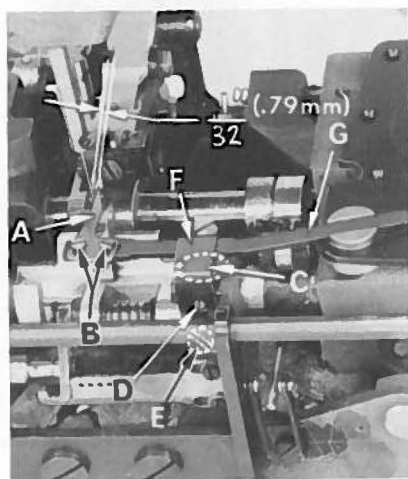

Fig. 12
With the needle bar at the bottom of its stroke the retainer point (A, Fig. 12) should be set so that it is even with the front of the needle and 1/32 inch (.79 mm) to the right of the needle (Fig. 12). This can be accomplished by loosening screws (B), reposition retainer as required and retighten screws (B). Rotate hand-wheel in operating direction to be sure that the underside of the retainer clears the highest point of the looper by .010 to .015 inch (.254 to .381 mm). Adjustment can be made by raising